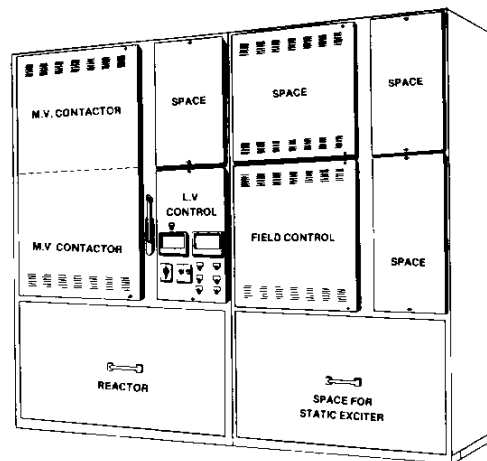

Figure 1
* See Figure 1 for arrangement and number of 30° cells required for each controller